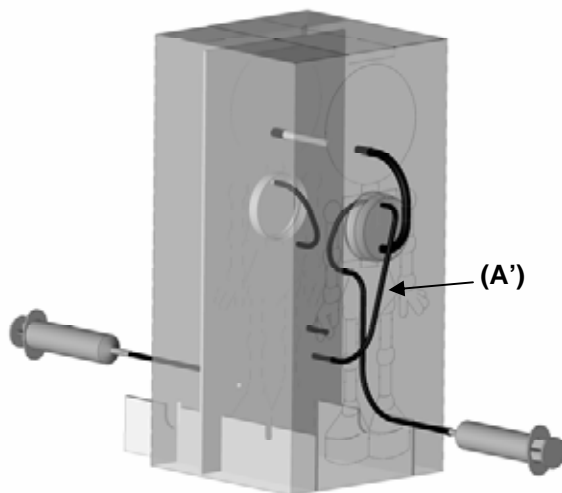

Figure 6
- Connect the syringe to the flexible tube exiting the enclosure near the left hip of the model (see Figure 6).
- Feed the flexible tube **(A')** through the slot provided by the left knee; it is operated from the outside of the enclosure (see Figure 6) and is designed to recycle the contaminated air to the front of the model and thus into the interior of the enclosure.
- The model is now ready to be attached to the active smoker model (see Figures 6 and 7).
- Pinch the flexible tube **(A')** entering the enclosure at the left knee of the model (see Figure 6).